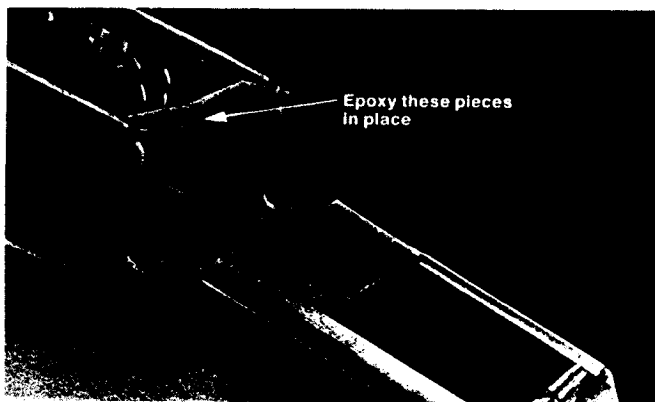

Fig. 9-3. Use epoxy to glue the windshield top former in place.
7) Gluing the windshield top former: Glue this part in place with epoxy (see Fig. 9-3). It's hard to make a secure joint with CA.